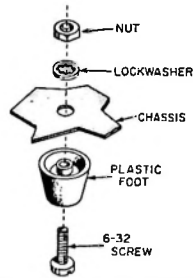

FIGURE 10. FOOT MOUNTING
- Four plastic feet, TS-6, a 3-terminal strip and a solder lug. Mount each foot as shown in Figures 10 and 34 with a 6-32 x 1/2" screw, lockwasher and nut. The terminal strip and the solder lug are mounted with the same hardware used to mount two of the feet. See Figure 5 for the location of TS-6 and the solder lug.